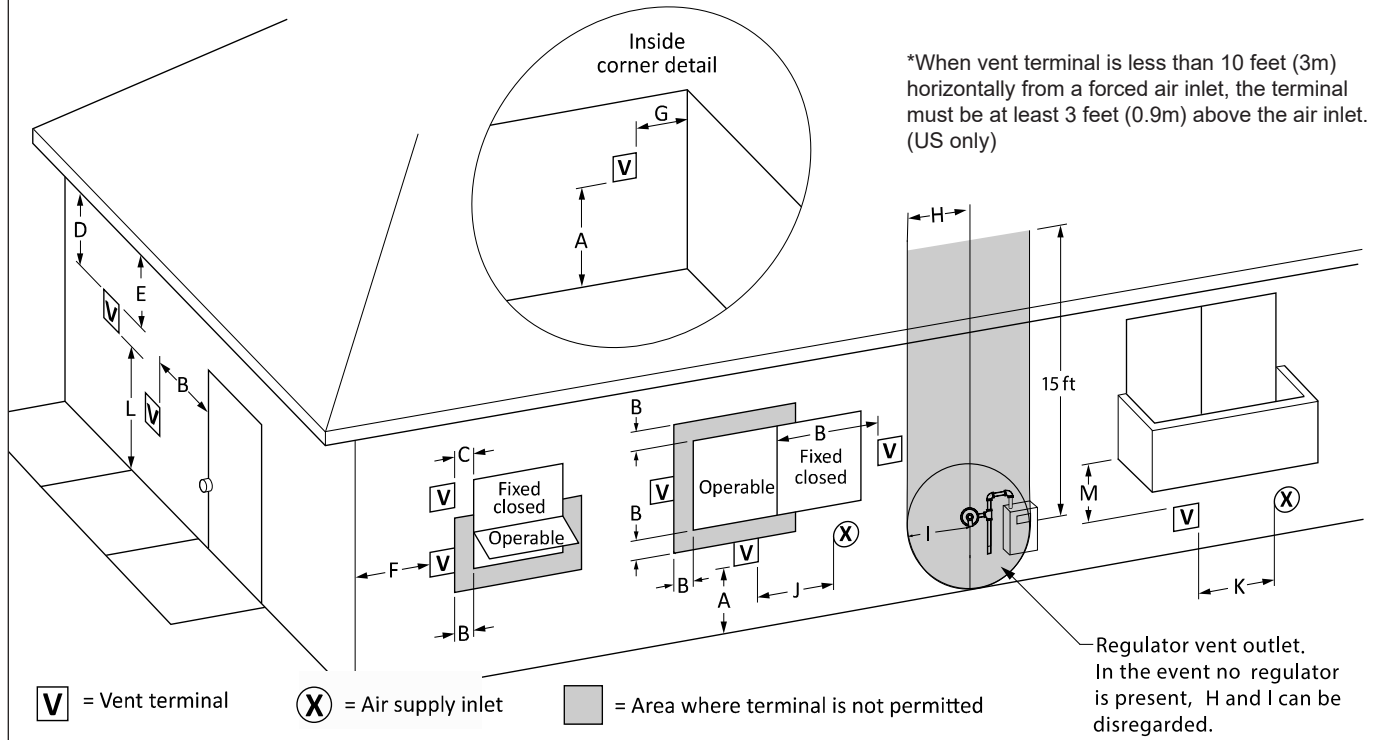

Figure 3. Combustion Air and Vent Through Side Wall.
1. Figure 3 on page 12 shows the requirements for mechanical vent terminal clearances for the U.S. and Canada.